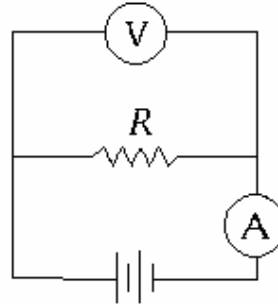

Figure 5: Voltmeter-Ammeter measurement – Circuit 1
When the voltmeter is connected in *parallel* across only the resistor, the ammeter that is in series with this parallel combination measures the total current (I) that passes through the voltmeter as well as the resistor. [Figure 5] Therefore, though the voltmeter gives the desired voltage across the resistor, the ammeter reading does not give the exact value of the current through the resistor (R). If the resistance of the voltmeter in the 20-V range is R_v , the current through the voltmeter is given by Ohm's law as $I_v = V/R_v$ and the current through the resistor R becomes $(I - I_v)$. Therefore, the resistance R is given by
16. Connect the power supply in series with one DMM (as an ammeter) and the 100-ohm resistor. Connect the second DMM as a voltmeter (in parallel) directly across the 100-ohm resistor, with the positive terminal of the voltmeter connected to the end of the resistor closest to the positive (+) side of the power supply, as shown in Figure 5.